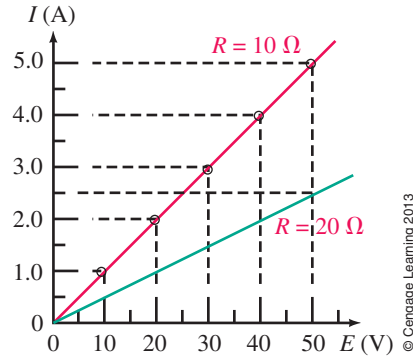

FIGURE 4-6 Graphical representation of Ohm's law. The red plot is for a 10-Ω resistor while the green plot is for a 20-Ω resistor.
The relationship between current and voltage described by Equation 4-1 may be shown graphically as in Figure 4-6. The graphs, which are straight lines, show clearly that the relationship between voltage and current is linear, that is, that current is directly proportional to voltage.
- Verify all points on Figure 4-6 for $R = 10\ \Omega$.